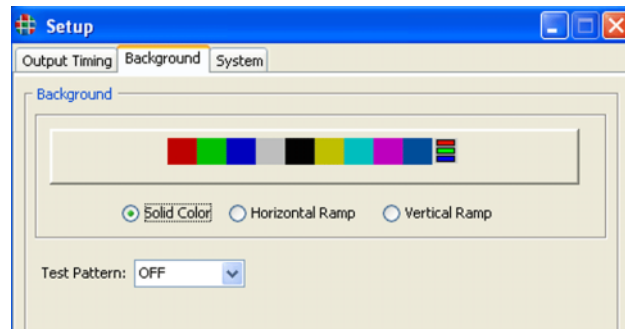

Figure 3-11. WCP Background page
- Select the **Background** tab (Figure 3-11).
- Select the **Background** page tab (Figure 3-11)